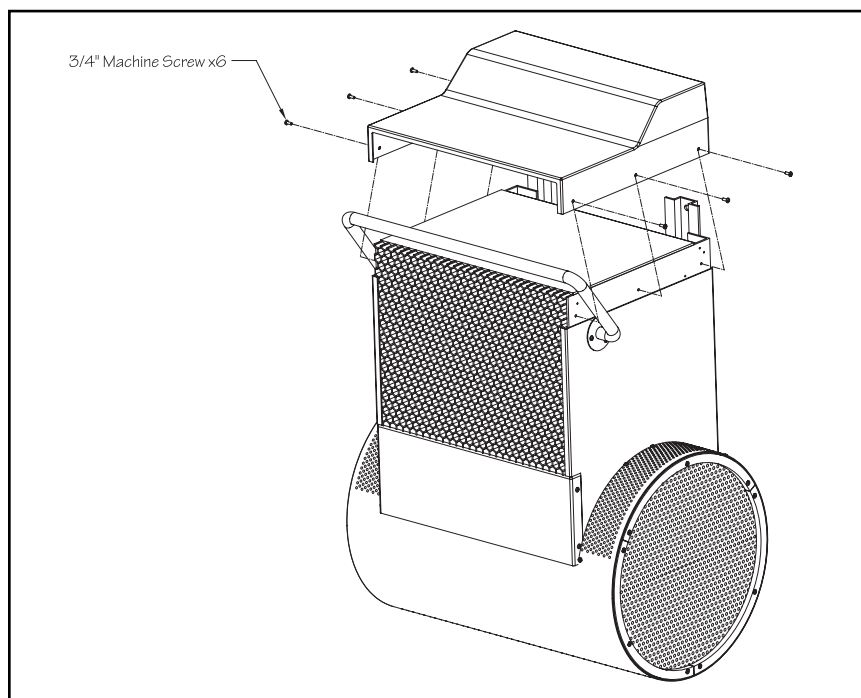

Fig. 6.12
- 6.14 Once the Fastlane Pro is installed in the pool, place the housing lid onto the housing and use the provided screws to attach. There will be three screws per side, for a total of six (Fig 6.12).
- 9.6 Place the Fastlane Pro lid onto the top of the Fastlane Pro and use the six 3/4" (19mm) stainless steel screws that were provided (3 on each side) (See Fig 6.12).